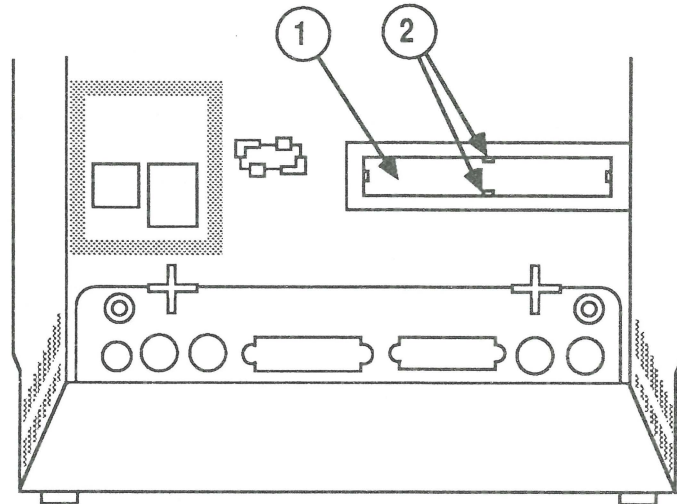

FIGURE 1
- IPL.3 Video Card – 12-inch B/W and 13-inch RGB (Figure 1)
2. If you are installing the cable (and not replacing it), locate the expansion port cover (Figure 1, #1) on the inside of the Macintosh SE cover. Squeeze the two center mounting tabs on the expansion cover (Figure 1, #2) toward each other, and push out to remove it.